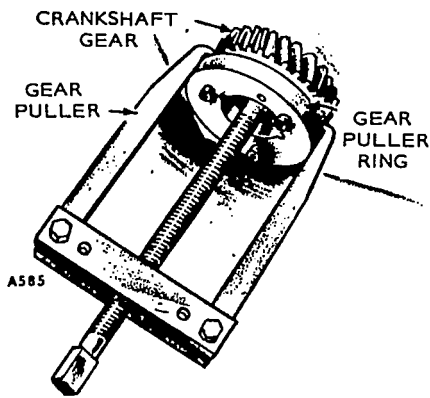

FIGURE 64. REMOVING CAMSHAFT GEAR
2. Pull off crankshaft gear. It has 2-1/4-20 UNC tapped holes for attaching a gear pulling ring. Use care not to damage teeth if the gear is to be reused. See Figure 64.